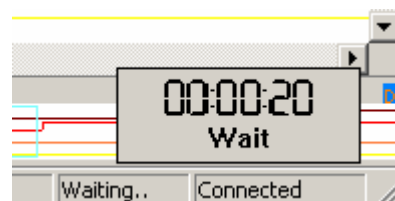

Fig 4-26 – Waiting Status
**Tip:** If the status is “Waiting...” with no signal outputting as shown in Fig 4-26, click the Stop  icon to end the Run; check the setup again, and try the run process again.